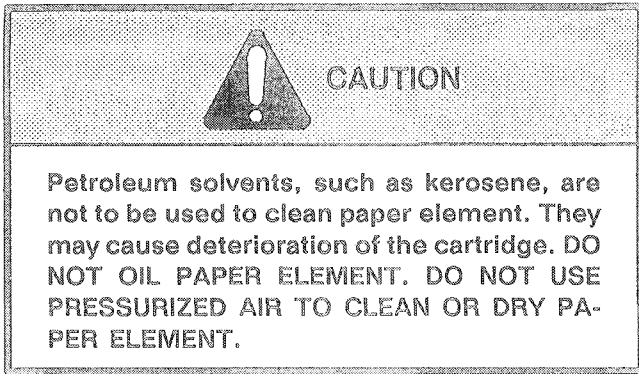

**Figure 15**
2. Remove foam pre-cleaner by sliding it off the paper element (Fig. 15).